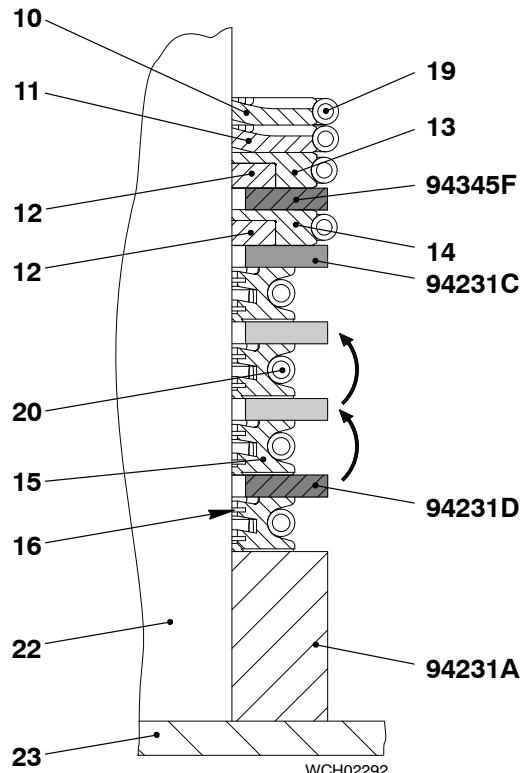
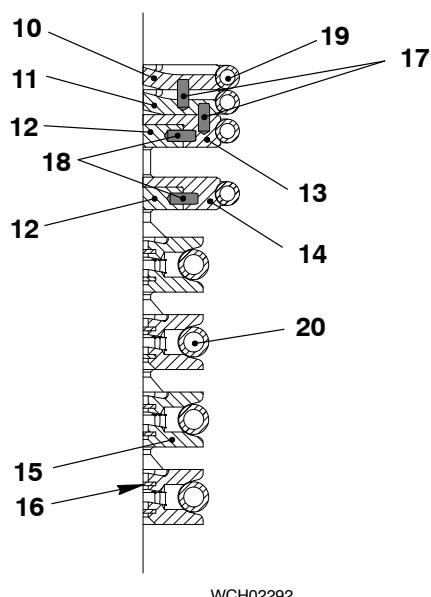

Fig. 7
Fig. 8
- 1) Attach the two parts of the clamp ring 94231A to the piston rod (see Fig. 7).
- 2) Put the three parts of the ring support (15) and the scraper rings (16) on the clamp ring 94231A.
- 3) Use the assembly tool 94233 to attach the tension spring (20) to the ring support (15).
- 4) Put the two parts of the distance piece 94231D (9 mm height) on the ring support (15) (see Fig. 7).
- 5) Put the next three parts of the ring support (15) and the scraper rings (16) on the distance piece. Make sure that there is an equal distance between the three parts.
- 6) Use the assembly tool 94233 to attach the tension spring (20) to the ring support (15).
- 8) Do the steps 4) – 7) above again until the four ring supports (15) are attached to the piston rod 22.
- 9) Put the two parts of the distance piece 94231C (11 mm height) on the top ring support (15).
Note: One segment of the gaskets (12, 13, 14) has two holes for the horizontal spring dowel pins (18) (see Fig. 8). The other three segments have only one hole. On the top of one segment of the gasket (13) there is one hole for a vertical spring dowel pin (17).
- 10) Put the four parts of the gaskets (12, 14) on the distance piece 94231C (see Fig. 7).
- 11) Make sure that all horizontal spring dowel pins (18) are installed (see Fig. 8).
- 12) Use the assembly tool 94233 to attach the tension spring (19) to the gaskets (12, 14).
- 14) Put the two parts of the distance piece 94231B (12 mm height) on the gaskets 12, 14 (see Fig. 7).
- 16) Make sure that all horizontal spring dowel pins 18 and the vertical spring dowel pin 17 are installed (see Fig. 8).